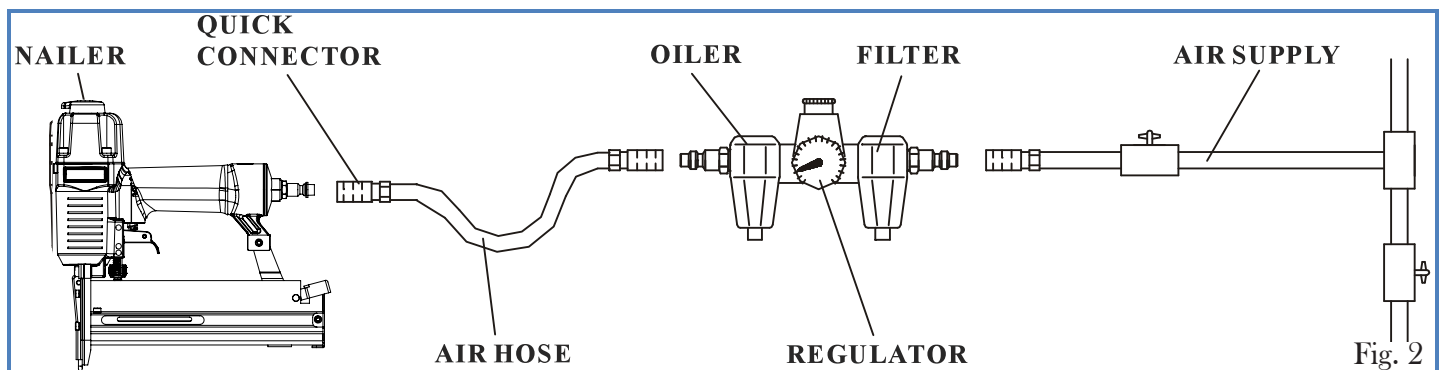

Fig. 2
CONNECTING THE TOOL TO AN AIR SUPPLY (Fig. 2)
Your tool should be connected to a properly installed compressed air supply. The working pressure of the air compressor must be regulated by a regulator to fit the operating pressure of your nailer (60-100 PSI). Refer to the diagram on the bottom (Fig. 2) for the recommended accessories and connection order.
1. Turn on the compressor on and set the regulator (Fig. 2 - Regulator) to the proper pressure within 60 to 100 PSI. The pressure can be adjusted later depending on firing depth, length of fastener and hardness of the workpiece.